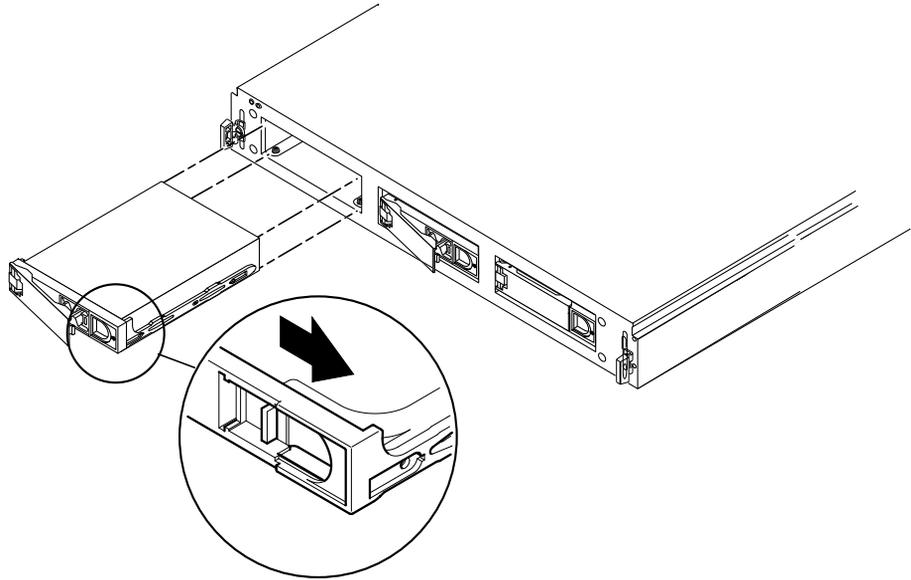

FIGURE 4-2 Removing and Replacing a Disk Drive
4. Unlatch the drive bracket handle by sliding the latch in the direction indicated in FIGURE 4-2.